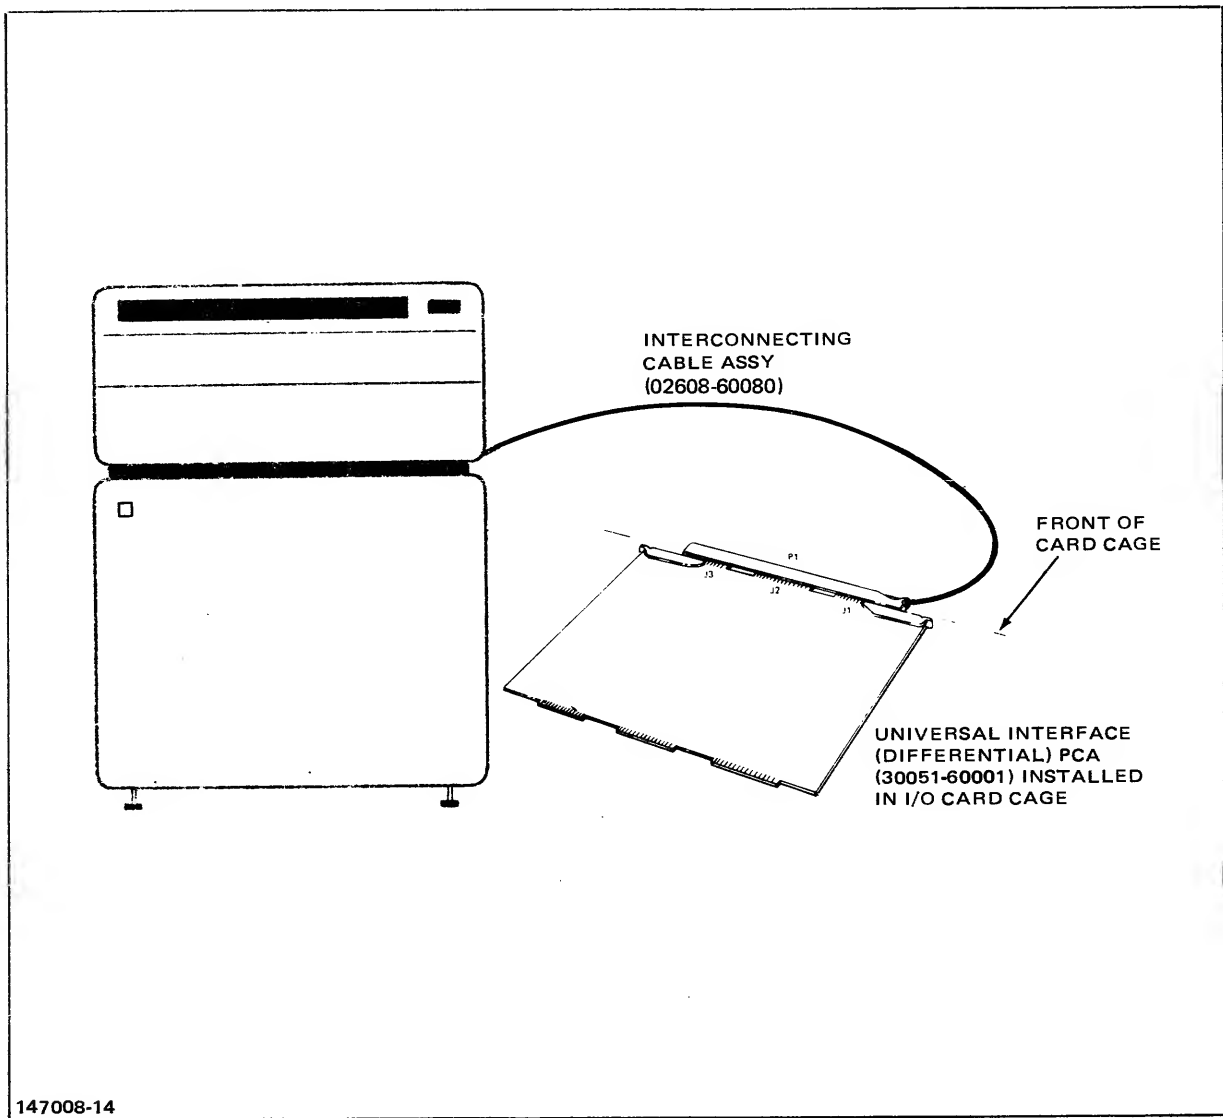

Figure 3-7. HP 2608A Line Printer
1. Connect the interconnecting cable assembly's P1 connector to the interface PCA as shown in figure 3-7.